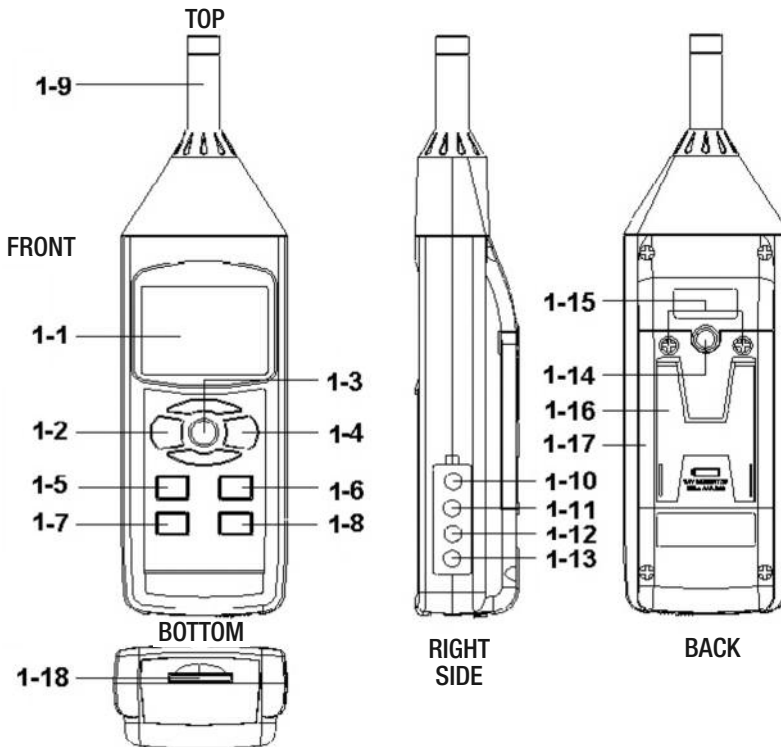

Fig. 1. The DSM402SD's controls and indicators and other physical features
Figure 1 shows all of the controls and indicators on the front, right side, back and bottom of the DSM402SD. Familiarize yourself with the positions and functions of these controls, indicators and connectors before moving on to the setup procedure.
- 1. To prepare for calibration,** obtain an optional sound calibrator and mate its output connector with the head of the DSM402SD’s microphone (callout 1-9 of Fig. 1). Power on the sound calibrator and manually set its range to 50 to 100 dB.
3. **Press the SET button** on the DSM402SD (callout 1-7 of Fig. 1), which has the term “Fast/slow” stenciled below it. Press either the ▼ or ▲ button until the word “FAST” appears on the display. Press the REC/ENTER button to select and store this setting as the temporary default.
5. **To calibrate the DSM402**, set the output of the sound calibrator to 94 dB and carefully turn the calibration screw on the right side of the meter (callout 1-11 of Fig. 1) until the display shows the following: “94 +/- 0.2 dB”.